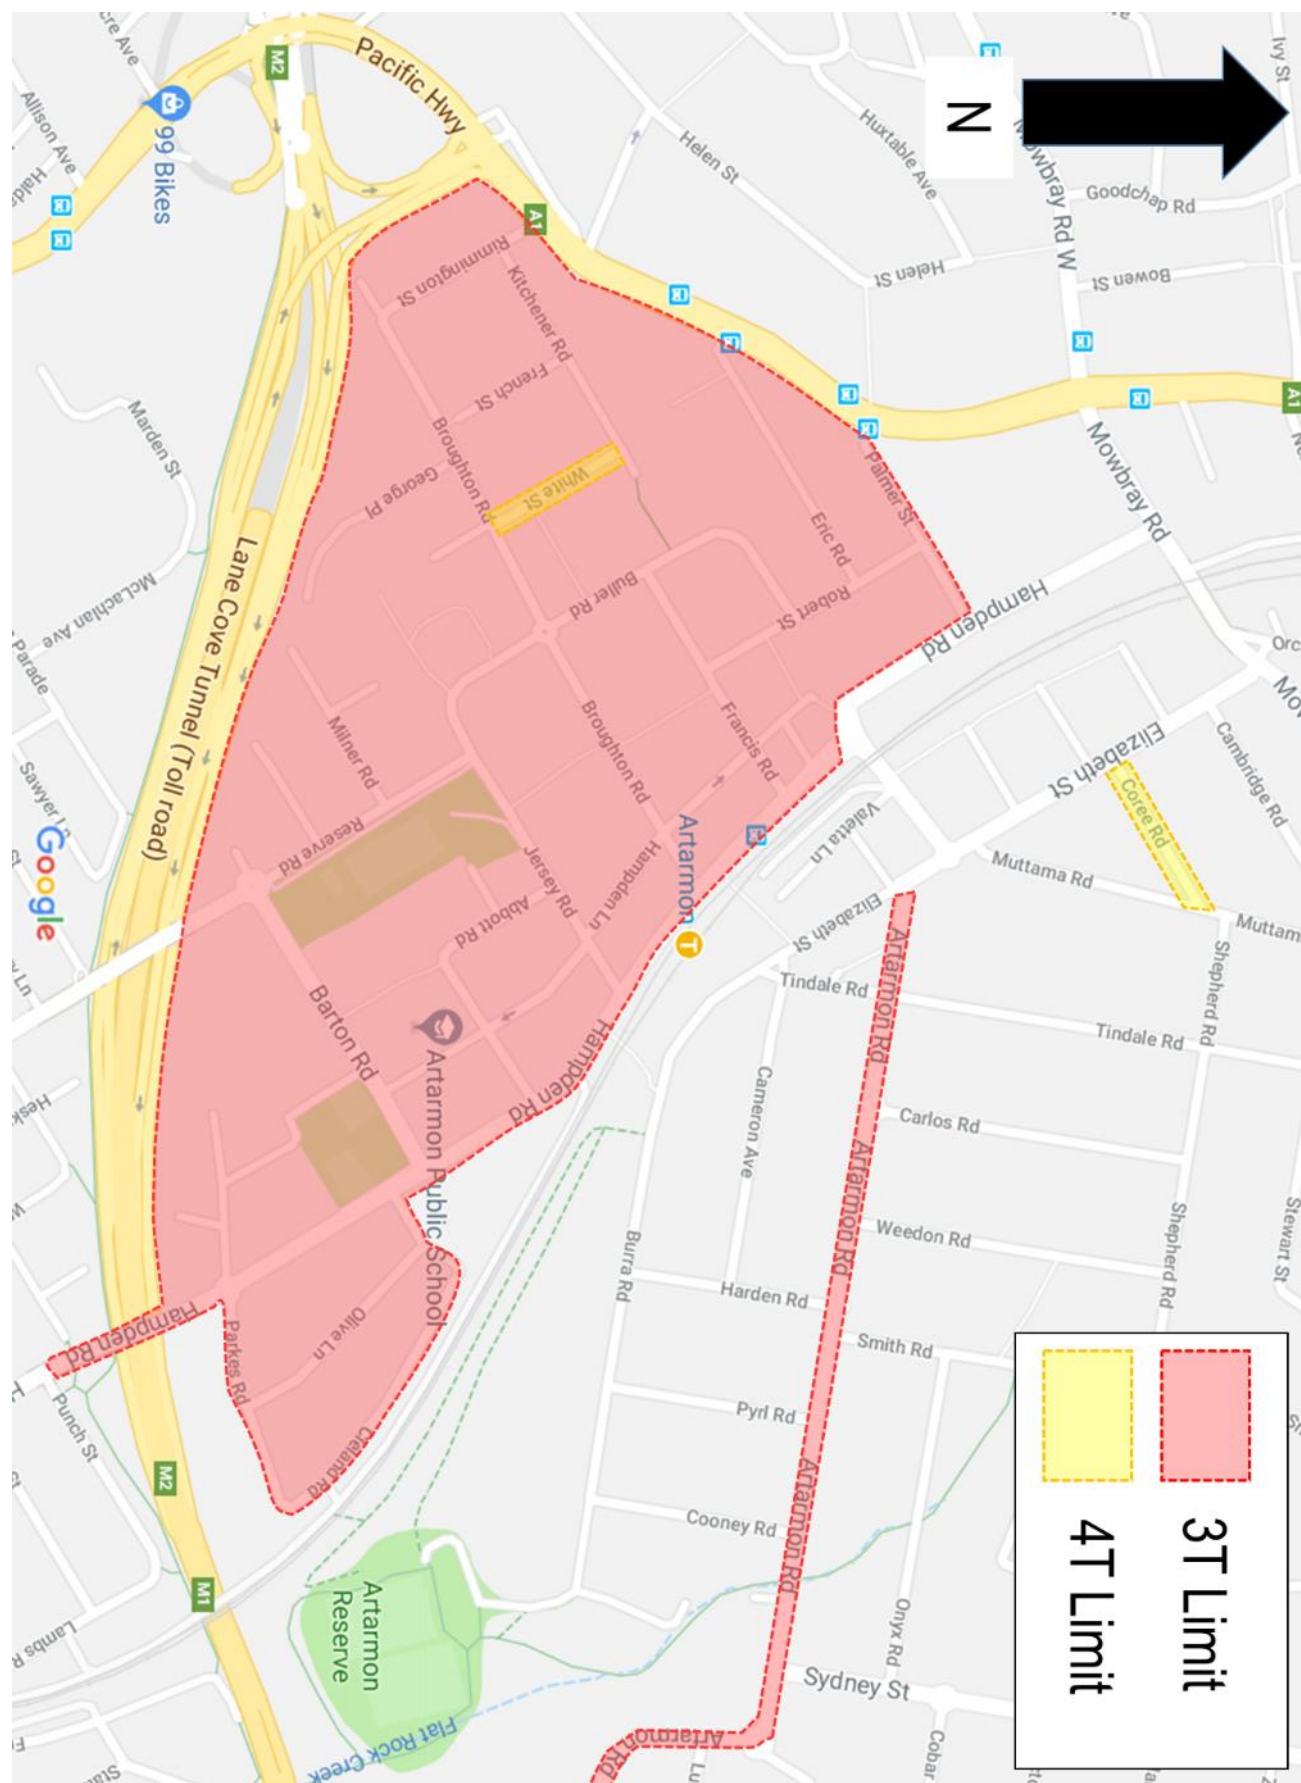
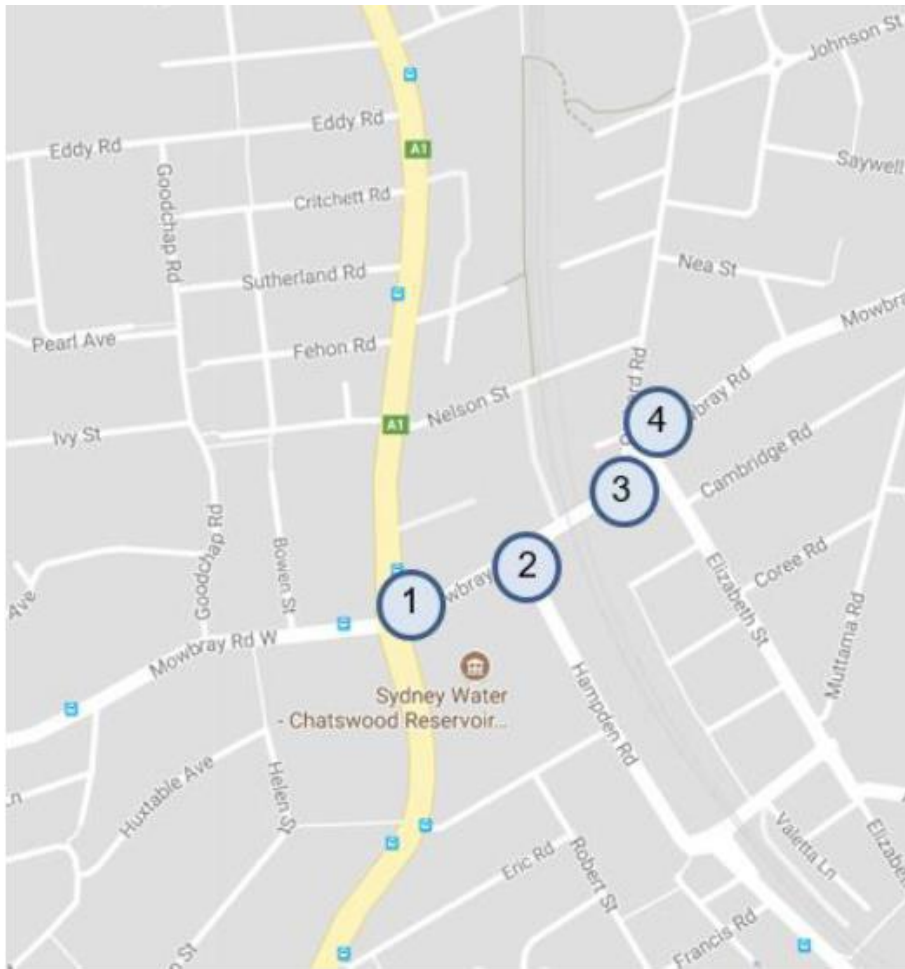
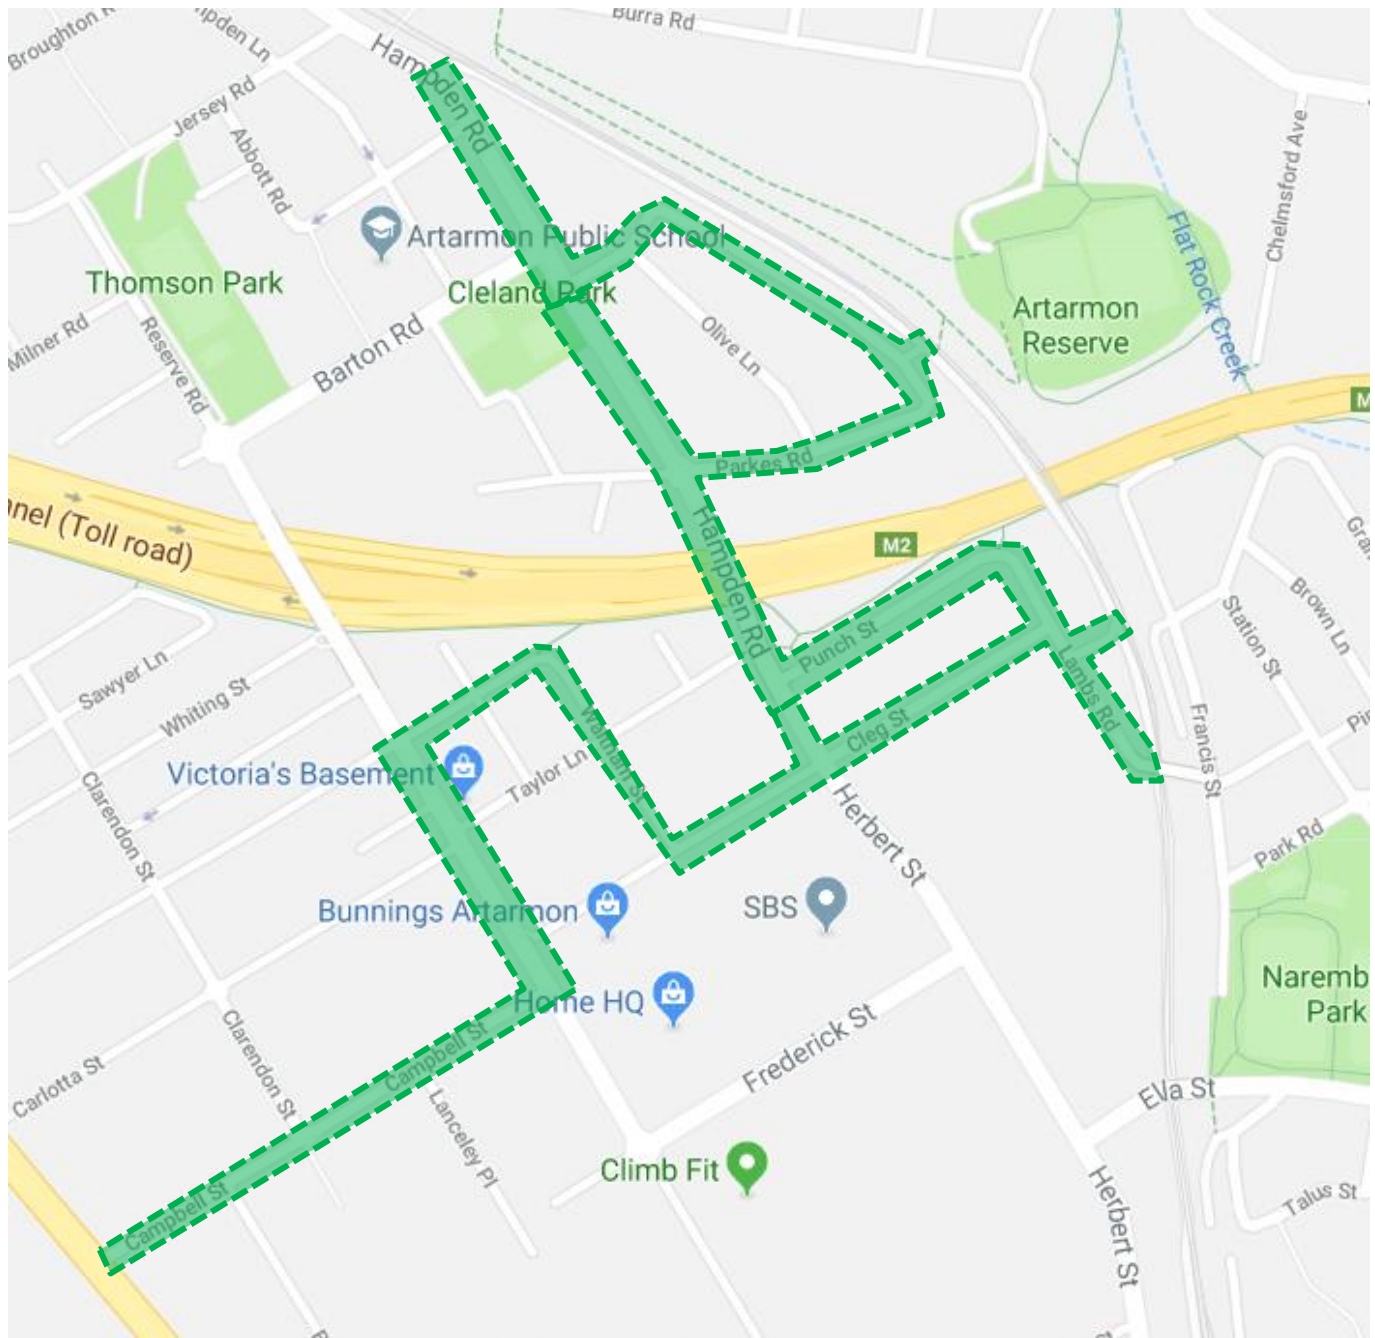

Figure 13 – Tonnage Limits for Northern Site Surrounding Roads
Figure 15 – Traffic Mobility Restrictions
Figure 17 – Dilapidation Survey Report Scope
There are a number of mobility restrictions in and around the project site, including weight limits shown in **Figure 13** and **Figure 14** and banned turns shown in **Figure 15**. There are also a number of height restrictions, including a clearance of 4.5m at Brand Street Bridge and 4.6m at Albert Avenue Bridge. These restrictions have been alleviated by planning heavy movements in accordance with **Appendix A-2: Heavy Vehicle Haulage Routes**. Where a delivery or transport company is required to attend a certain access/egress point on the site, the LORAC Site Manager/Relevant Foreman shall advise on the most effective means of routing that complies with the approved routes.
As required in condition E90, a Road Dilapidation Report must be prepared for local roads proposed to be used by heavy vehicles for the purposes of the CSSI before the commencement of use by such vehicles. The report will record the condition of roads, footpaths, stormwater pits and pipes, and kerb and gutter assets. Copies of the Road Dilapidation Report must be provided to WCC within three (3) weeks of completing the surveys and no later than one (1) month before the use of local roads by heavy vehicles. Refer to **Figure 15** and **Figure 17**.